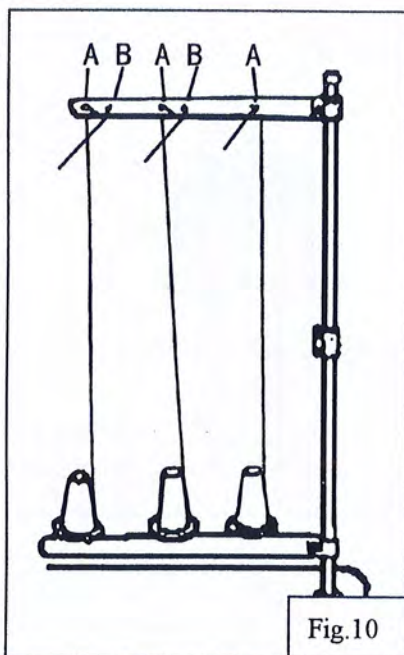
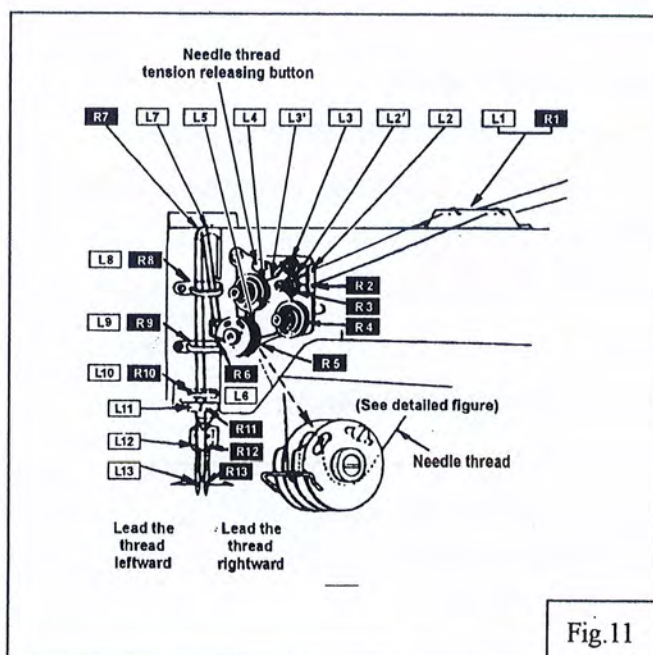

Fig.10
Fig.11
**4) How to route the upper thread (Fig.10, Fig.11):**
**Note:** when thin slippery thread (polyester thread for example) is used pass the thread through thread guide B as show in Fig.10
B With the take-up lever located at the upper most position, pass each thread in the order in Fig.11.